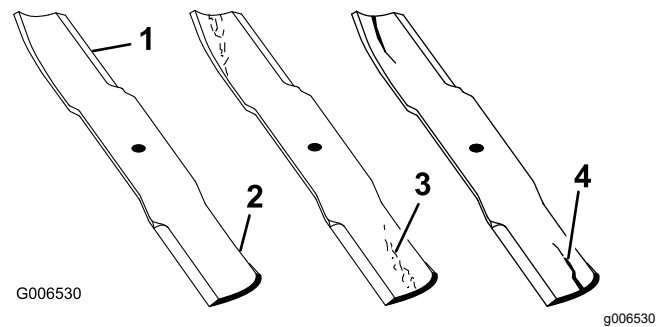

Figure 31
2. Examine the cutting ends of the blade carefully, especially where the flat and curved parts of the blade meet (Figure 31). Since sand and abrasive material can wear away the metal that connects the flat and curved parts of the blade, check the blade before using the machine. If you see wear (Figure 31), replace the blade; refer to Removing and Installing the Blade\(s\) (page 20).
If the blade is allowed to wear, a slot will form between the sail and flat part of the blade (Figure 31). Eventually, a piece of the blade may break off and be thrown from under the housing, possibly resulting in serious injury to yourself or bystanders.